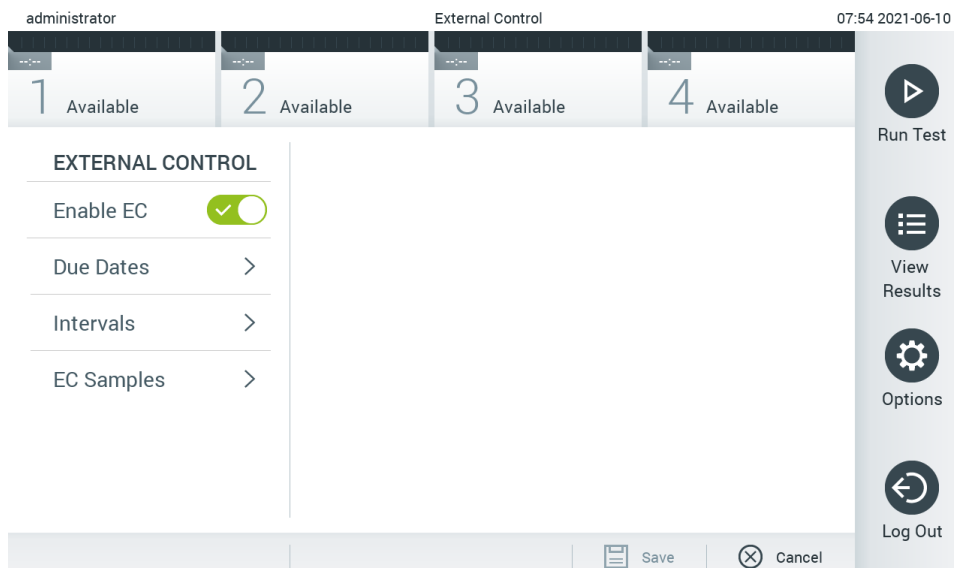

Figure 50. The External Control screen.
2. Press the **Enable EC** toggle button to activate the feature (Figure 50).